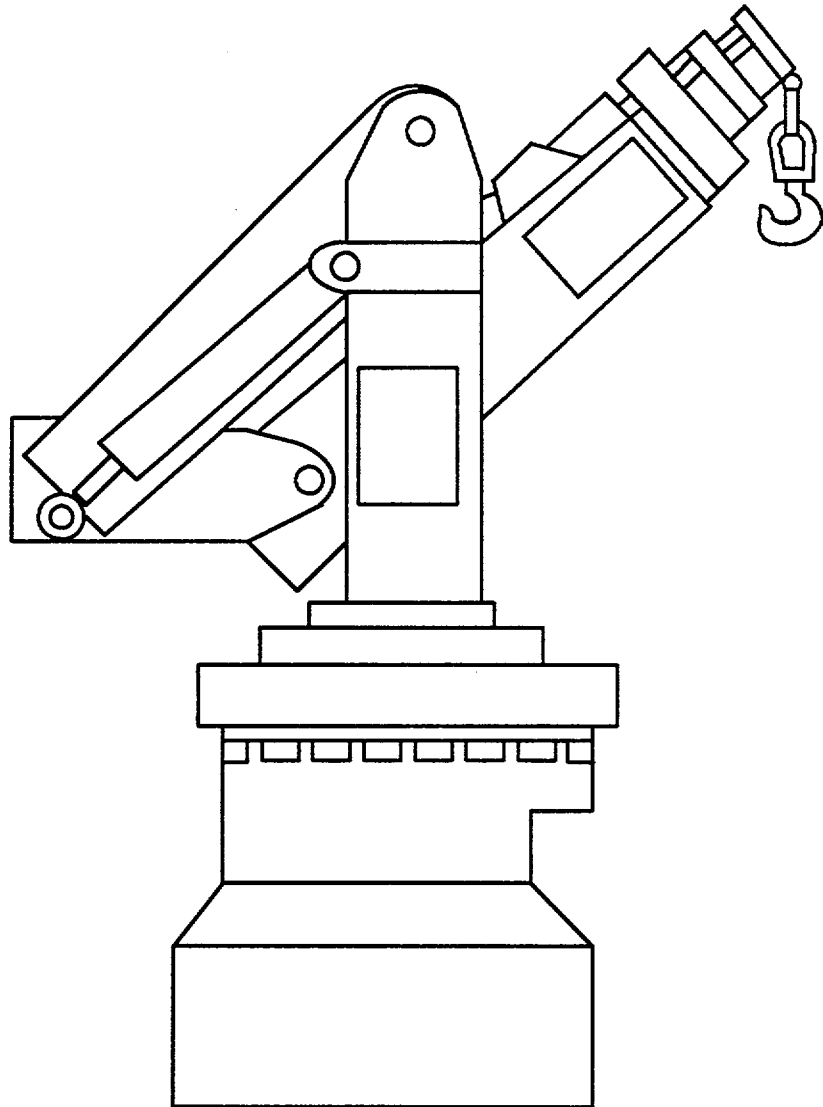
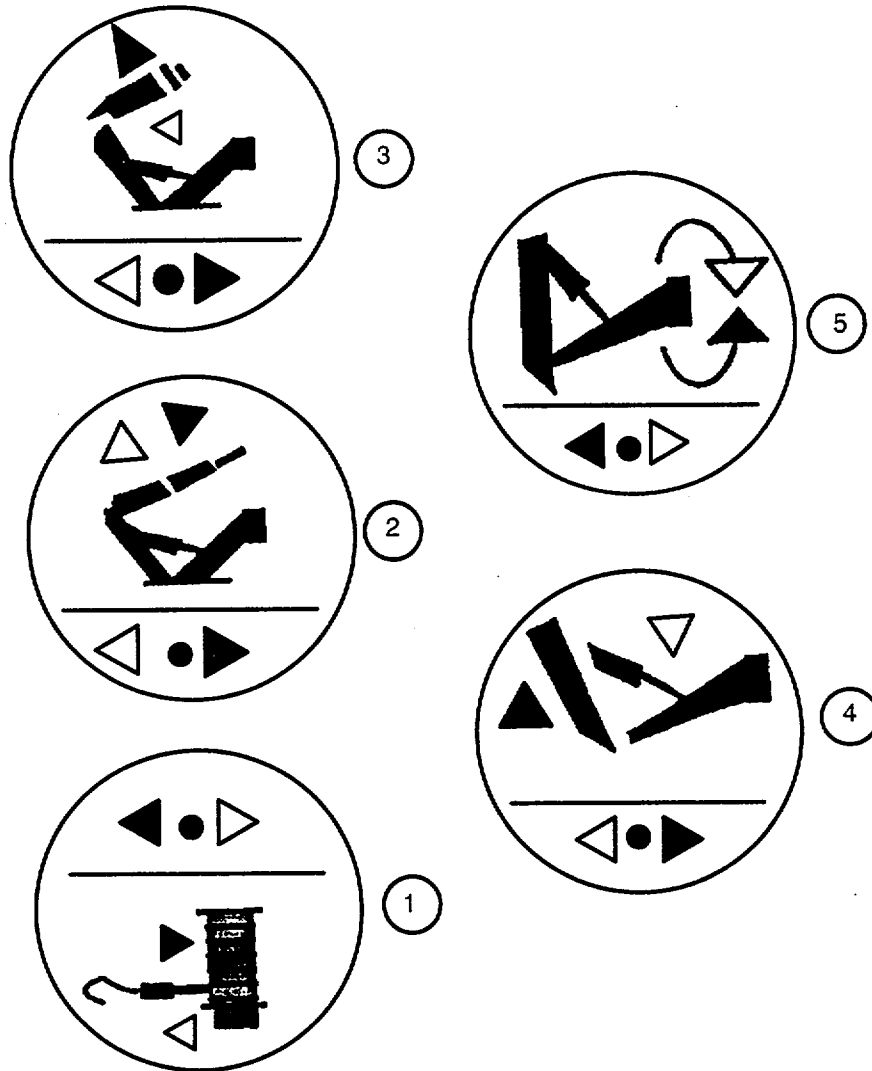

Figure 2-10. Bow Crane in Traveling (Stowed) Configuration
Figure 2-11. Bow Crane Control Panel (Barges 2 and 3)
**2-17.2 Bow crane procedures.** From deckhouse top stowage, the workboat is deployed and recovered through use of the bow crane. The bow crane is mounted on the bow weatherdeck and is shown in Figure 2-10 in its traveling configuration. Complete instructions for operating and maintaining the bow crane are contained in TM 551930-209-14&P-13. When being used to deploy or recover the workboat, obey the following precautions:
**2-17.2.1 Bow crane operating controls** Bow crane operating controls are located forward on the deckhouse top. These controls consist of five movement levers (Figure 2-10 for Barge 1 and Figure 2-11 for Barges 2 and 3).